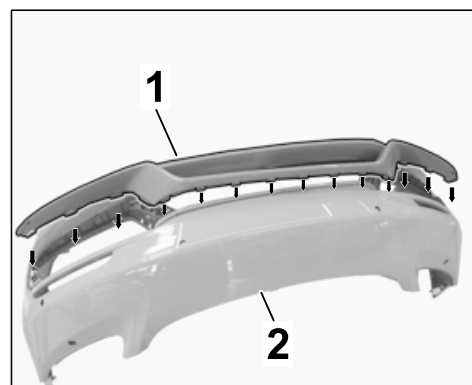

Figure 21
- 5.5 Clip front apron trim  $\Rightarrow$  *Figure 21-1* into front apron  $\Rightarrow$  *Figure 21-2* ( $\Rightarrow$  *Figure 21* -arrows-).